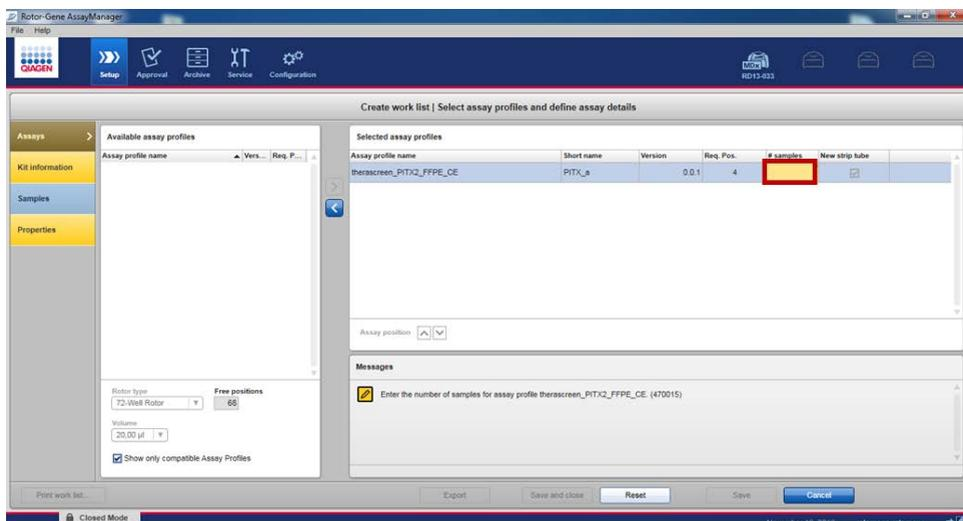

Figure 9. Inserting the number of samples.
20. In the “Assays” tab, complete the yellow fields: Number of samples (up to 8) in accordance with your plate setup (Figure 9).